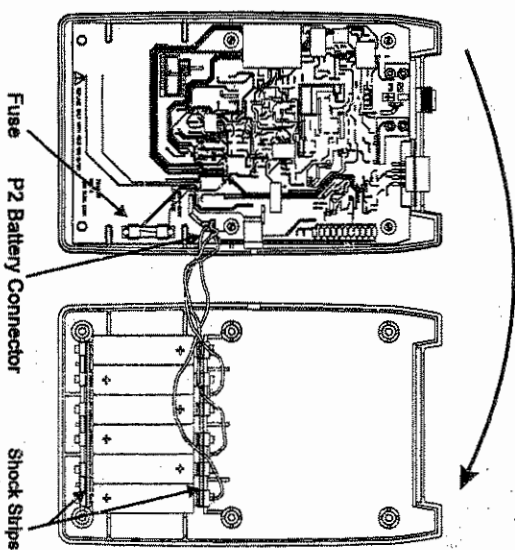

Figure 5. Battery / Fuse Replacement
- Install the new batteries checking the orientation of the positive and negative terminals. Polarity is indicated on the case, and in figure 5.